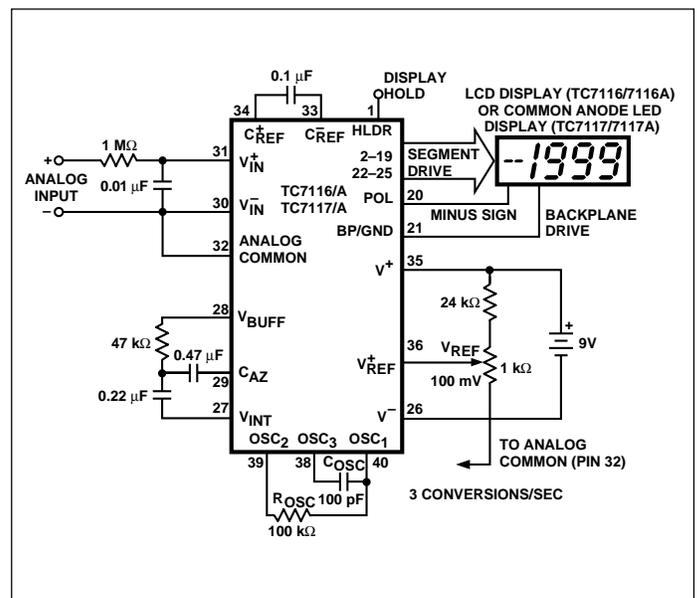

Figure 1. Typical TC7116/A/7/A Operating Circuit
3. Unless otherwise noted, specifications apply at  $T_A = +25^\circ C$ ,  $f_{CLOCK} = 48kHz$ . TC7116/TC7116A and TC7117/TC7117A are tested in the circuit of Figure 1.